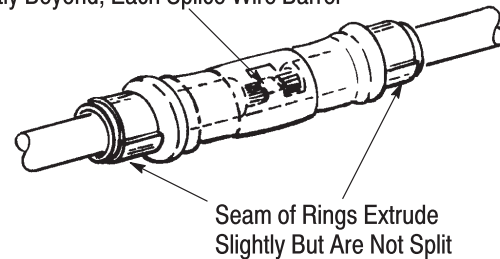

Figure 4
8. Visually inspect the crimped splice according to Figure 4.
5. Align the NO-GO element and try to insert it straight into the same crimping chamber section. The NO-GO element may begin entry as shown in Figure 4, but must not pass through the chamber.